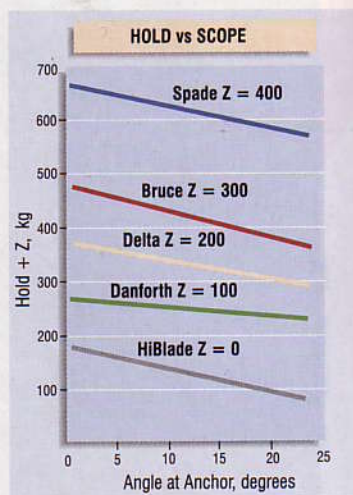

FIGURE 1 Dependence of hold upon Scope for 5-7 kg Anchors and 2 kg Danforth, ploughing at 3 cm/sec
■ We all know that the hold of an anchor reduces as the scope decreases and that the greatest hold is achieved when the cable is horizontal. But, by just how much does the hold decrease with scope, and do all anchors perform similarly? Although one of the functions of chain is to keep the cable close to horizontal, as soon as there's real tension, it runs more or less straight from the anchor to the stemhead. Consequently, it leaves the anchor at a finite angle to the seabed. This is the normal situation when you're worrying whether your anchor will hold. In all my experiments, the cable was straight between the anchor and pulley, whether it was nylon or wire. So, the scope (S/D) was simply related to the angle (q) that the cable makes with the seabed, by the equation: $S/D = 1/\sin q$. I also made sure the anchors were launched and initially pulled at the scope required for any particular test. So, when working at a scope of three, I'd launch the anchor at this scope, and pull it at the same scope for six to eight shank lengths in order to establish its plateau hold. A standard drag rate of about three centimetres per second was maintained throughout. This is about 1/20 knot, so is extremely slow relative to any boat speed. Figure 1 plots plateau values against the angle (q) at which the cable leaves the seabed. Selected scope values are
Figure 1 includes data only for the roll-stable anchors, plus the 2 kg Danforth which was stable when engaged symmetrically. Unfortunately, it was impossible to provide consistent data for the unstable plough and Brittany anchors. As expected, the hold decreased as the